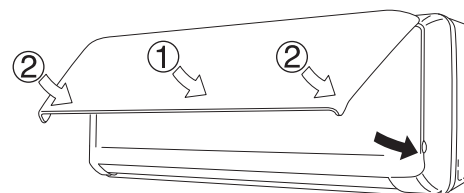

Fig. 19
- (6) Insert the top of the anti-mold filter, and then secure the bottom of the filter with the protrusions on the unit.
- (7) When closing the front panel, push the central part of the front panel first and then press the bottom right and left corners in place until you feel a click. (Fig. 19)